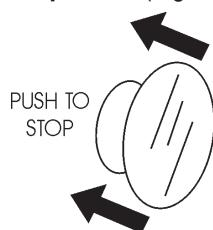

Figure 22. Start/Stop Button (Stop Position)
1. Push the main ***start/stop*** switch (Figure 22) inward to stop the engine.